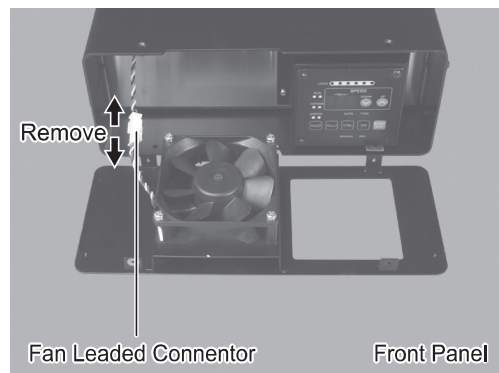

Fig. 42
- (5) Remove the FAN Cord (Fig. 42).